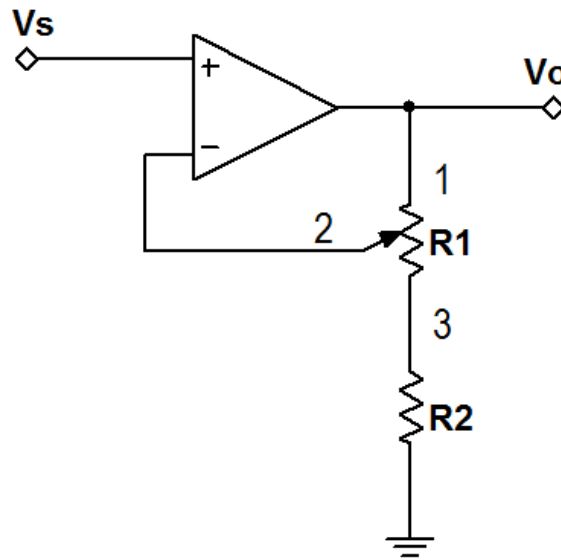

Figure 4.2: Circuit for Problem 4.2
The circuit in Figure 4.2 uses a potentiometer whose total resistance is R_1 . The movable stylus on terminal 2 creates two variable resistors: βR_1 between terminals 1–2 and $(1 - \beta)R_1$ between terminals 2–3. The movable stylus varies β over the range $0 \leq \beta \leq 1$.
1. Enter the circuit of Figure 4.2 into NI Multisim. Use these specific components: OPAMP_3T_VIRTUAL, AC_VOLTAGE, and virtual linear
1. Build the circuit of Figure 4.2 on the facing page with the given component values. Use the following myDAQ signal connections:
- The potentiometer terminals of Figure 4.2 on page 44 follow the standard pinout used by single-turn trim potentiometers. If your potentiometer does not label the pins, the stylus pin (Pin 2) is normally placed between Pins 1 and 3.